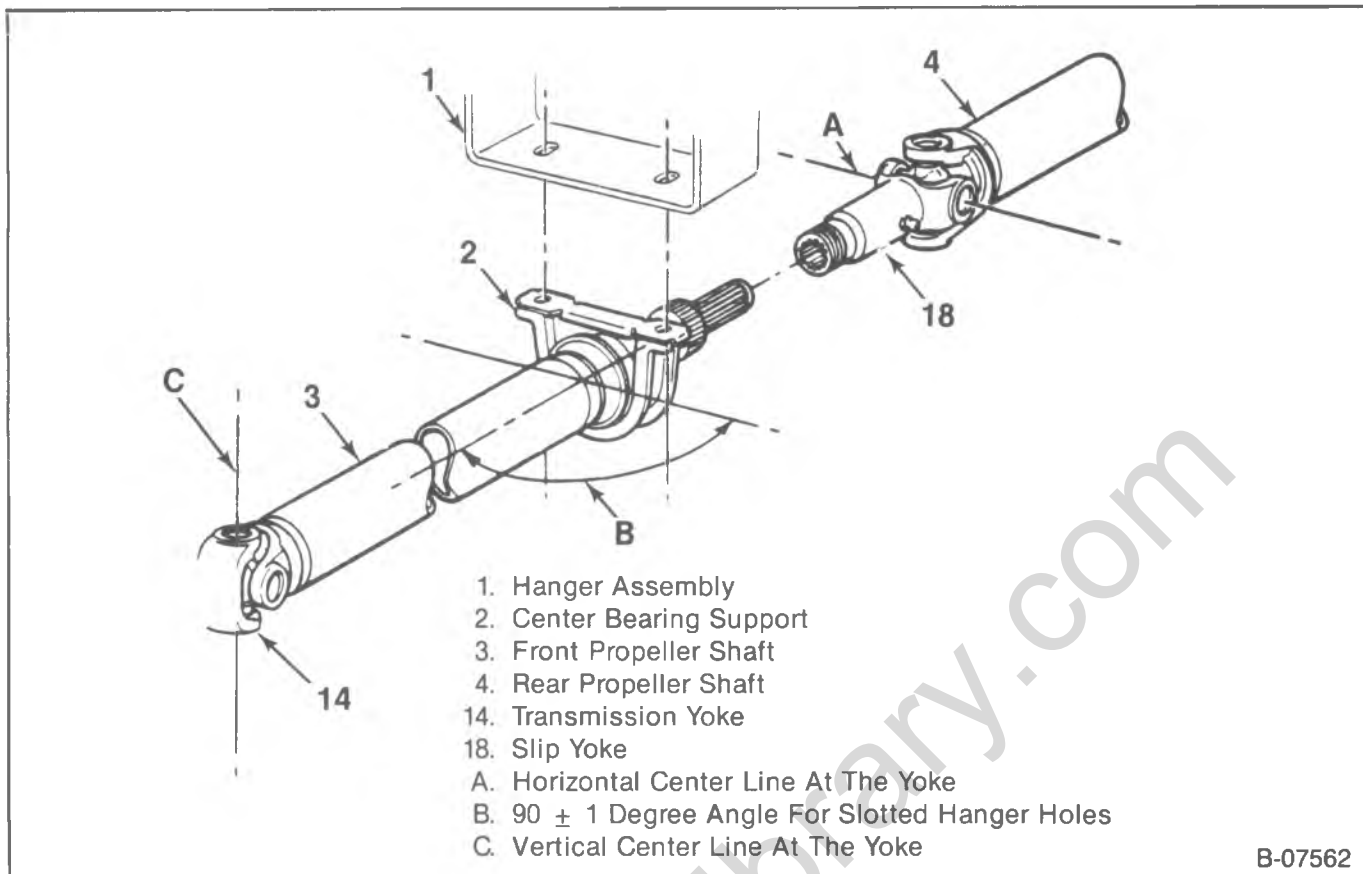

Figure 7—Alignment for Two-Piece Propeller Shaft In Phase, G and V Models
- Propeller shaft (3) into the transmission.
- Bottom the propeller shaft (3) yoke in the transmission.
- Center bearing support (2) onto hanger (1).
- Align the center bearing support 90 degrees to the propeller shaft (3, 4) center lines. Refer to figure 7.
- Bolt (16).
- Washer (15).
- Nut (13).
- Nut (13) to torque specification later in this section. Maintain alignment (figure 7).
- Set the transmission yoke (14) ears in a vertical position for proper phasing (figure 7).
- Cap (10).
- Washer (11).
- Seal (12).
- Locate the bridged tooth on the splined shaft (9).
- Slip yoke (18) onto the splined shaft (9).
- Mate the missing tooth in the yoke (18) with the bridged tooth on the splined shaft (9) figure 7. Support the propeller shaft (4).
- Be sure the slip yoke (18) ears are horizontal, figure 7.
- Propeller shaft (4).
- Retainer (6).